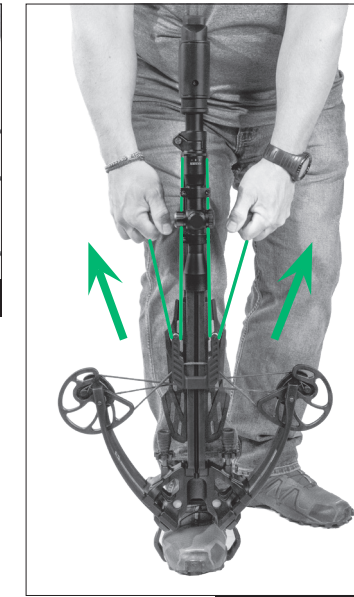

FIGURE 13
Pull both T-shaped handles of the rope cocker up simultaneously while pressing down into the stirrup. Doing this will draw the bowstring under the ball bearing retention spring (Part 21) and into the trigger mechanism. When the crossbow is successfully cocked, the bowstring will be captured by the trigger latch and the safety switch will automatically click from (F)IRE to the (S)AFE position. See Figures 13 and 14.